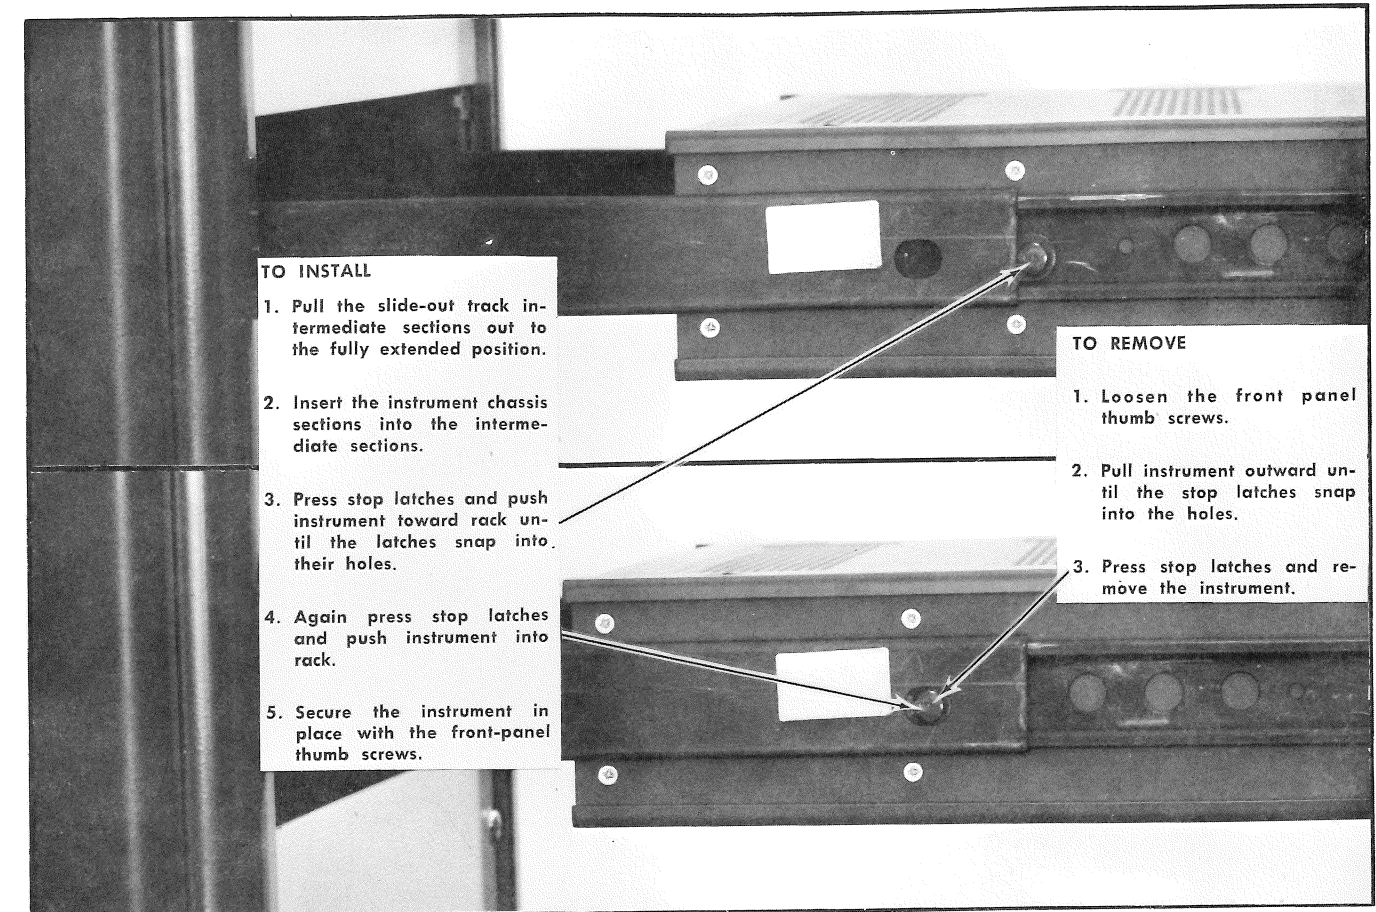

Fig. 9-7. Installing and removing the instrument.
1. Insert the instrument into the rack as described and as shown in steps 1 through 4 of Fig. 9-7 installation procedure.